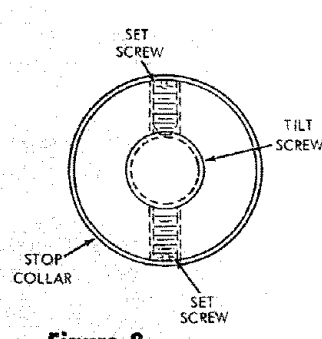
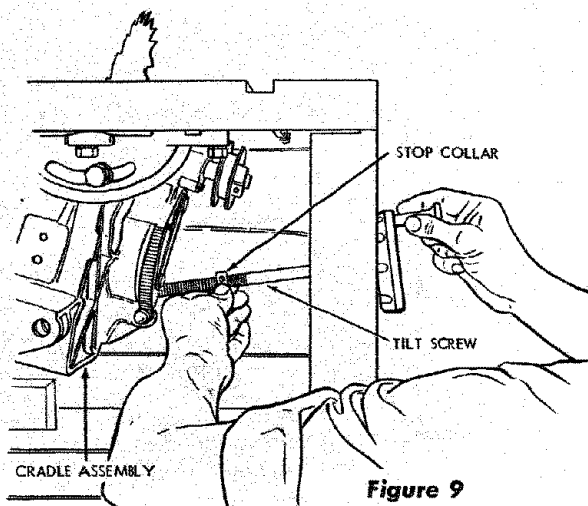
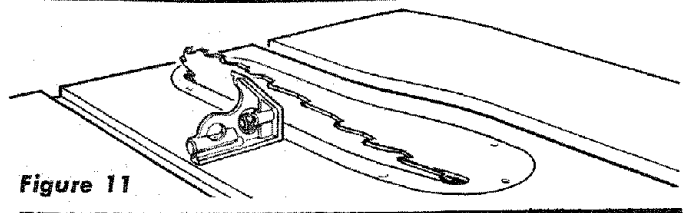
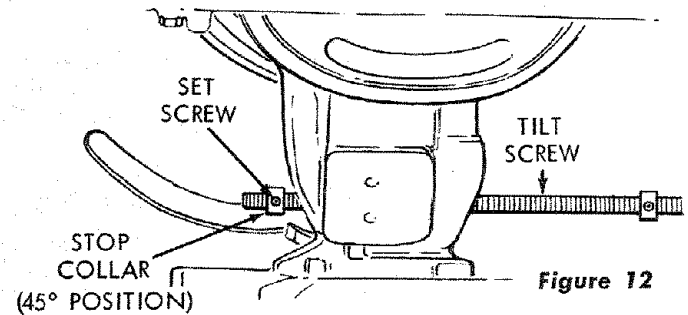

Figure 8
Figure 9
Figure 11
Figure 12
Two slotted-head set screws (figure 8) are used in each stop collar so that one of the screws will always be accessible (with operator reaching inside the saw base from the rear of saw, figure 9). After adjusting the collar, it is only necessary to tighten one of the set screws to secure the collar on the tilt screw.
- (6) Reach inside of saw base (figure 9) and rotate the stop collar clockwise until it is in firm contact with the saw cradle. Tighten one of the stop-collar set screws enough to keep the collar from rotating on the tilt screw.
- (1) Rotate the tilt hand-wheel counterclockwise until it will rotate no farther.
- (2) Remove the scale from a combination square and place the head of the square on table top and against saw blade. (See figure 11.) The saw blade should be setting at exactly 45 degrees with table top surface.
- (3) If the acute angle between saw blade and table top is not 45 degrees, rotate the tilt hand-wheel clockwise until the tilt mechanism moves a short distance away from the stop collar (located farthest out toward the end of tilt screw, figure 12) so the collar can be reached for an adjustment. When the tilt scale indicates approximately 35 degrees the collar will be accessible.
- (4) Loosen the two set screws in the stop collar. (See figures 8 and 12.) If, in preceding step (2), the blade stopped with the acute angle greater than 45 degrees, rotate the stop collar counterclockwise (toward end of tilt screw). If the angle is less than 45 degrees, rotate the collar clockwise (away from end of tilt screw). For each trial setting: move the stop collar a short distance away from saw cradle (by rotating tilt hand-wheel clockwise) loosen set screw, rotate the stop collar a fraction of a turn in desired direction, tighten one of the set screws (figure 12) and rotate the tilt hand-wheel counterclockwise until it stops. Then measure the angle of saw blade with table surface, as shown in figure 11.